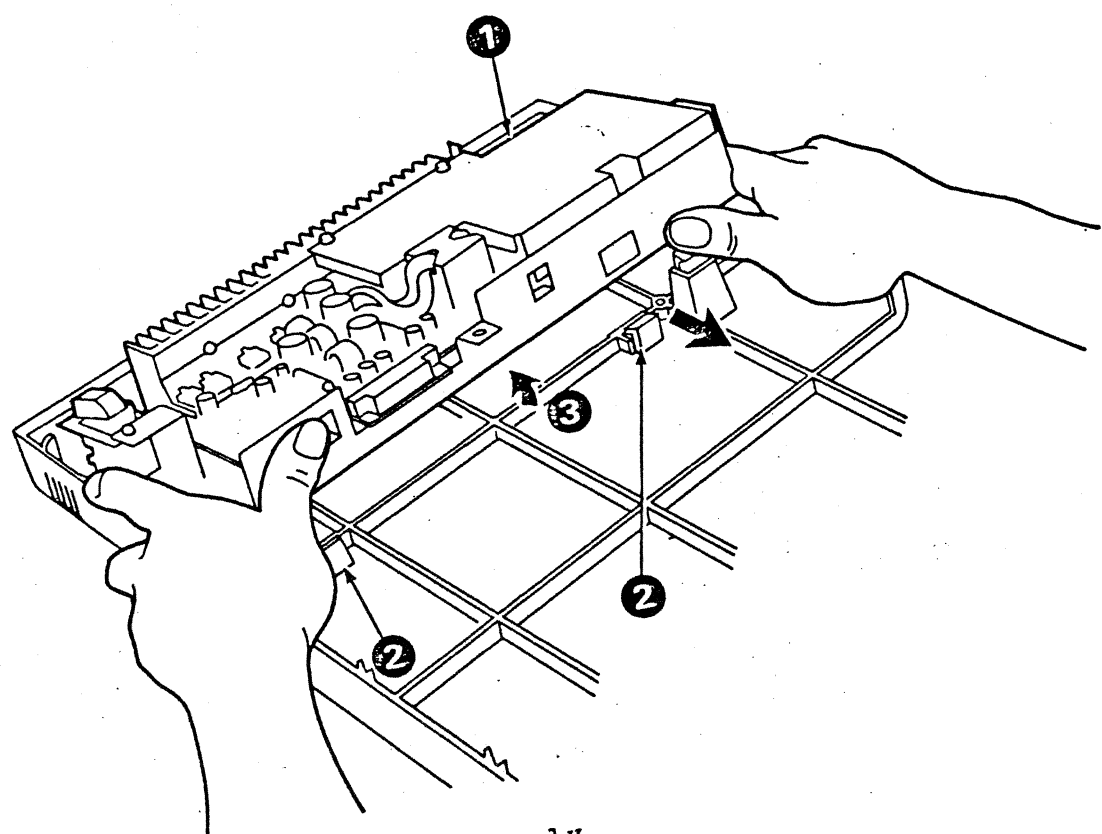

Figure 4-3. Power Supply
2. Disconnect the power-cord plug ① from the power supply (see Figure 4-3).
3. Disengage the two plastic tabs ② (the closer tab cannot be seen in the drawing), pivot the supply upward ③ and pull it out from the two tabs on the opposite side.